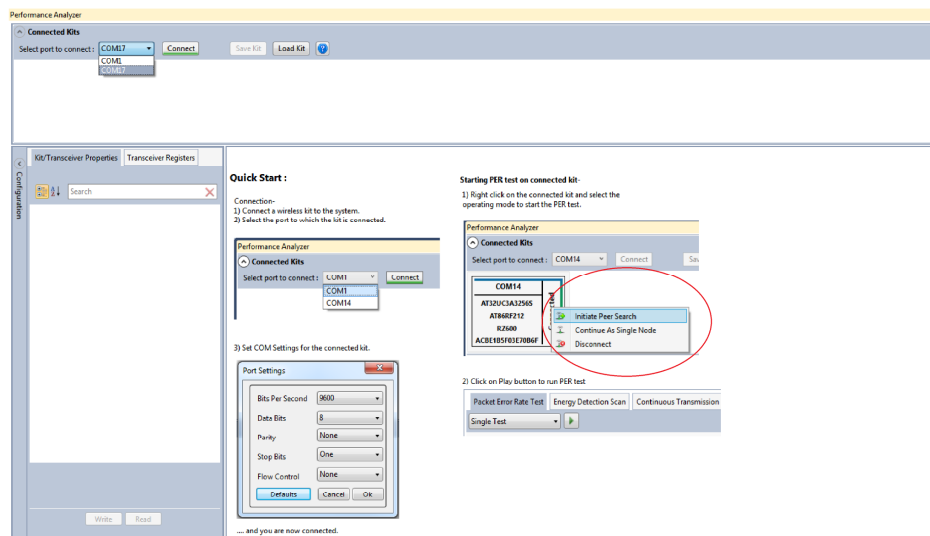

Figure 12: Performance Analyzer – COM Port Selection
3. To check the transmission only, right click on the Kit information area select “Continue as a single node”. This is also used for continuous transmission. Refer encircled portion in Figure 12.